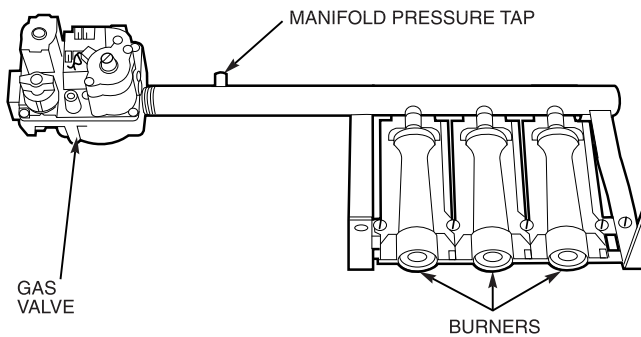

Fig. 48 — Burner Tray Details
10. Slide the burner tray out of the unit (see Fig. 48).
2. Remove manifold pressure tap plug from manifold and connect pressure gage or manometer. (See Fig. 48.)
11. Turn off unit, remove pressure manometer and replace the manifold pressure tap plug. (See Fig. 48.)